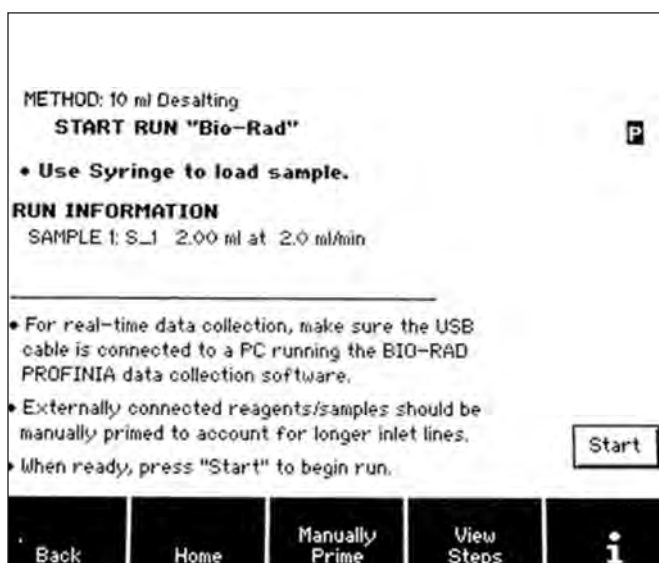

Fig. 6.28. Start Run screen directs application of the sample to the sample loop (desalting-only method).
3. Install the desalting cartridge in the cartridge 2 position. Touch the Next button to proceed to the Start Run screen (Figure 6.28).